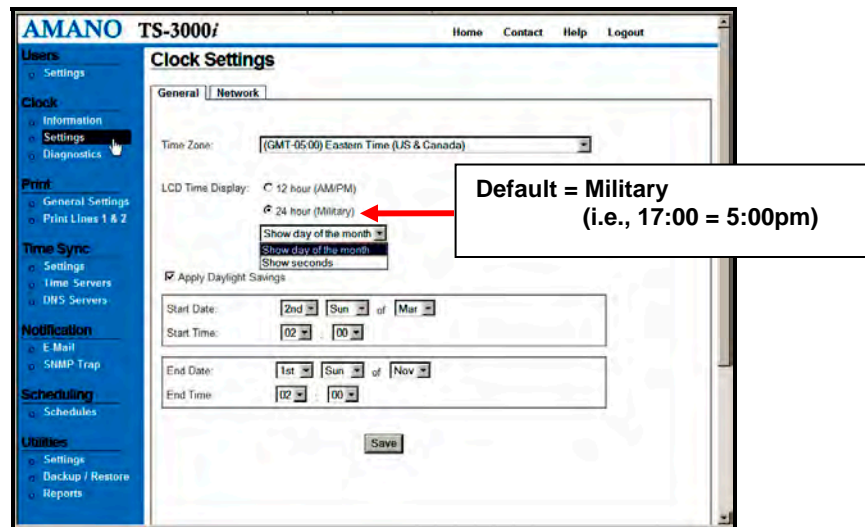

Figure 4-4. General Clock Settings.
Step 1. After you have logged in, click on the **Settings** link under Clock, and the **Clock Settings** screen for general settings will appear (see *Figure 4-4*).
Step 2. Select the appropriate Time Zone from the dropdown menu (see *Figure 4-4*). The default = EST. The Time Zone selected controls the Time Zone adjustment sent to the clock. If OATS compliance is necessary, the Time Zone must be set to the default of (GMT-05:00) Eastern Time (US & Canada).